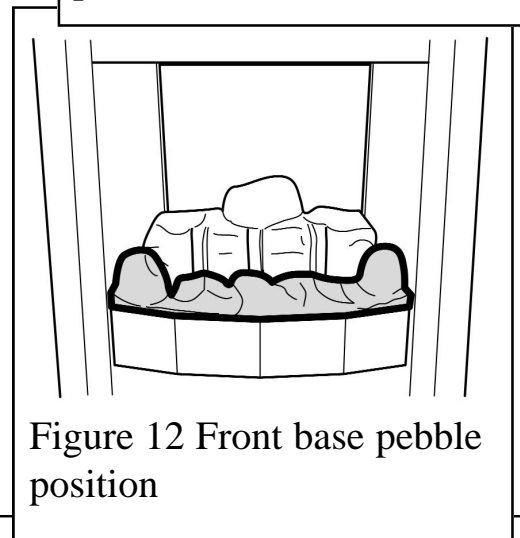

Figure 12 Front base pebble position
2. Place the front base pebble in the firebox with its bottom front locating over the front rim of the firebox. Pull the pebble forward so that it locates immediately behind the front rim of the firebox (See figure 12). The front base coal will touch the rear base coal as it is located.